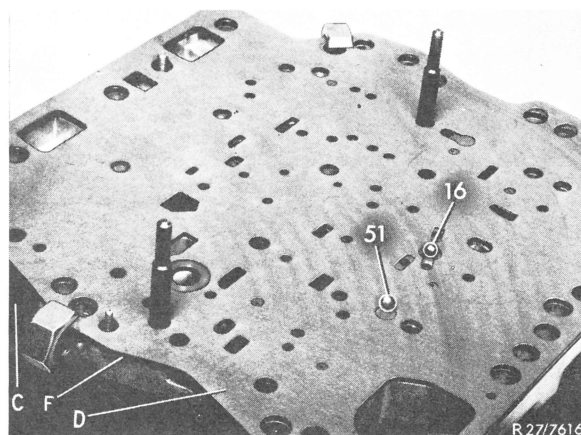

Fig. 7
**9** Remove gasket (D) and intermediate plate (F) (Fig. 7).
**15** Place intermediate plate (F) with gasket (D) on oil distributing plate and clamp down with holding clips (Fig. 7).
**16** Place two balls of 5.5 mm dia. (16 and 51) on intermediate plate (F) (Fig. 7).